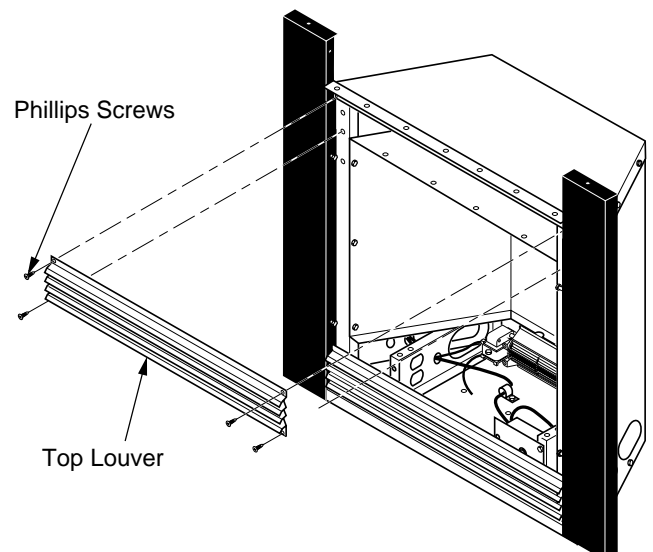

Figure 7 - Remove Louver
4. Using Phillips screwdriver, remove four screws attaching top louver (see Figure 7).